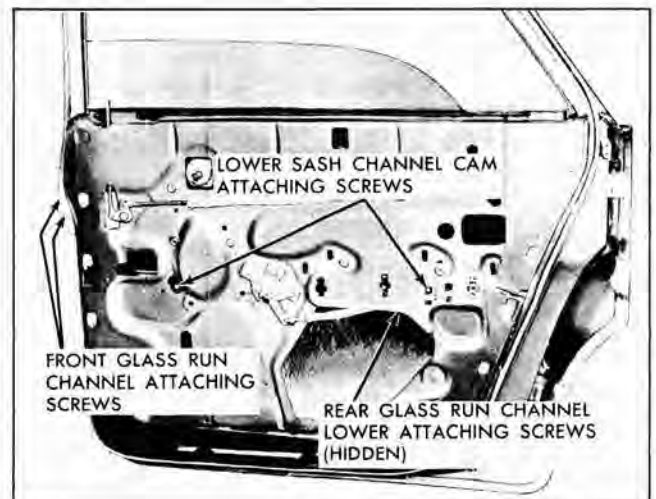

Fig. 3-42 Rear Door - "69" Style
1. Remove door trim assembly and detach inner panel water deflector. Disengage lower sash channel cam from window sash channel (Fig. 3-42).
2. Lower door window sufficiently to gain access to lower sash channel cam attaching screws through access holes in door inner panel and remove screws (Fig. 3-42).